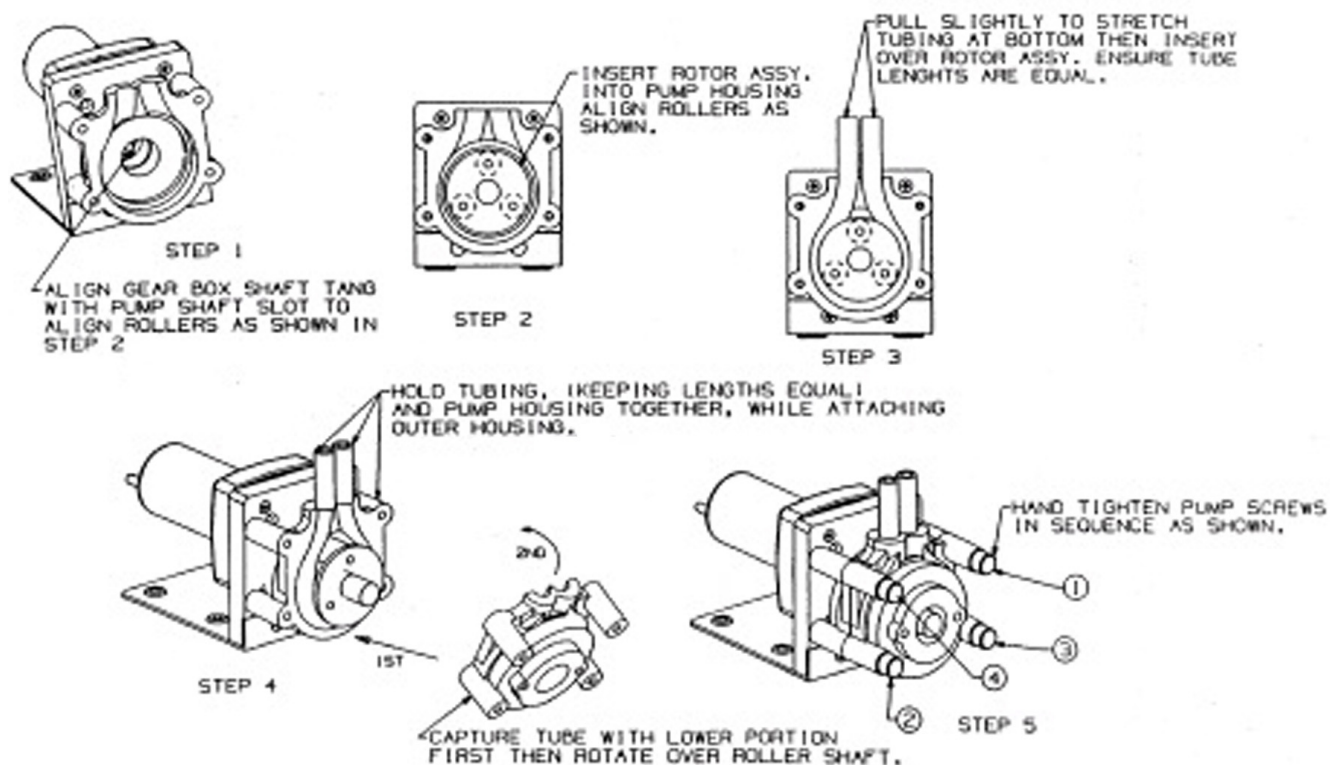

Figure 3.
5. Remove the old hose from the pump body. If the rollers come out with the hose, place in back into the housing being sure to align the roller assembly shaft keyway to the motor shaft key so that the two interlock (see Figure 3 for step by step pictorial instructions).